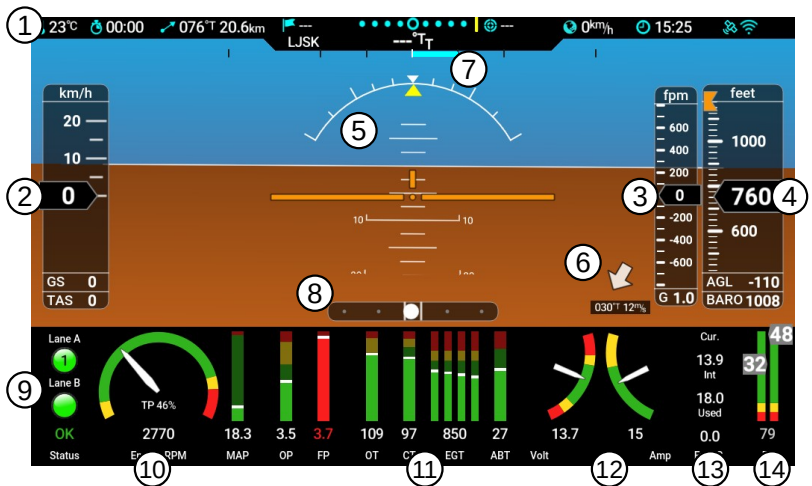

Figure 2.5: Illustration of the PFD/EMS screen with horizontal layout.
- ③ Vertical speed scale.
- ④ Altitude tape. A height above ground level (AGL) and current QNH value are shown at the bottom.
- ⑤ Attitude indication of pitch and roll. Roll scale has dash markings at 10, 20, 30 (long), 45, 60 (long) degrees. Figure 2.5 shows situation at 45 degree roll. Long pitch scale line has number at side, medium line refers to a 5 degree step and short line is 2.5 degree step.
- ⑥ Relative wind indication. Wind direction and speed are shown below1.
- ⑦ Heading rate indication.
- ⑧ Slip indication.
- ⑨ Engine status information for Rotax iS and ULPower engines. Number in the status light tells which generator is in use (Rotax iS).
- ⑩ Engine power section, RPM arc with totalizer and manifold pressure. During flight, the totalizer is not shown. A touch on the RPM arc will show totalizer for a couple of seconds. Throttle position is also shown when available.
- ⑪ Various vertical bars for engine pressures and temperatures. When multiple sensors are used for the same parameter (EGT, for example) all bars are shown and the highest value is given below. If there is enough space, then the lowest value is also shown.
- ⑫ Combination of two arc. Here it is used for voltage and current, but any other parameter can be also used instead.
- ⑬ Fuel computer values. The indication changes every few seconds between two sets. The first set shows fuel consumption and fuel used, the second set shows range and endurance. A touch on this toggles between sets.
- ⑭ Fuel tank combination. Left and right tank and sum of both below.